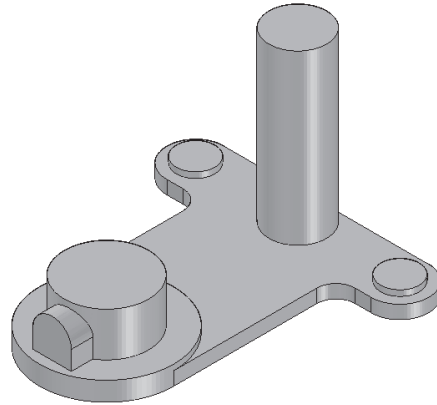

Figure 8-77 Model after adding the remaining protrusion features
- Add the remaining protrusion features to the base feature, refer to Figure 8-77.
- Add the remaining protrusion features to the model, as shown in Figure 8-77.